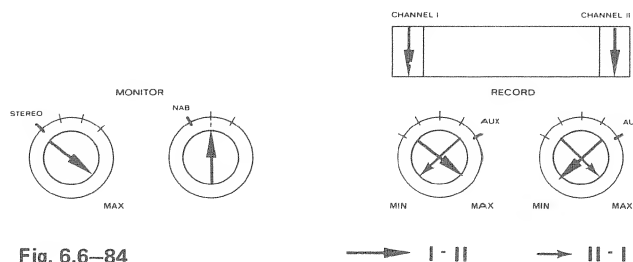

Fig. 6.6–84
- Set controls per fig. 6.6 –84.